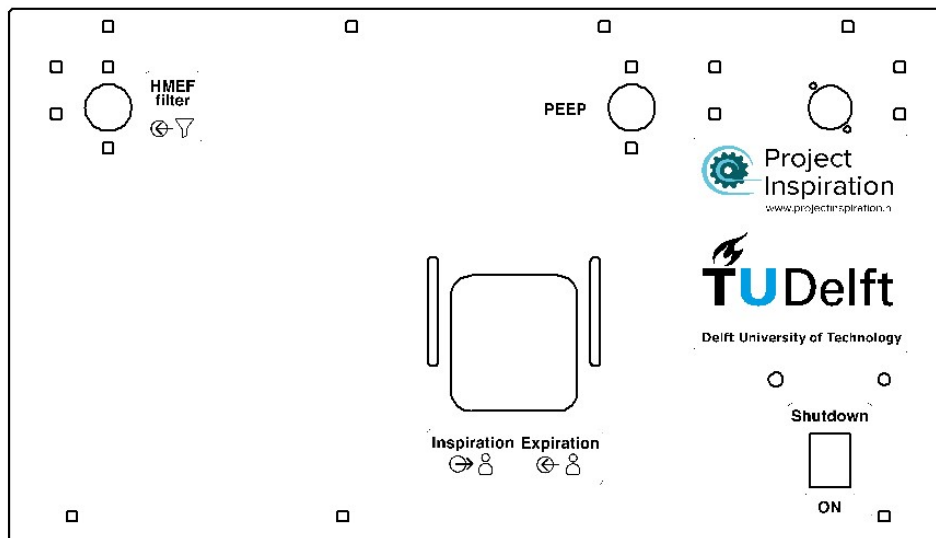

Figure 22: Placement of stickers on Front Plate
1. Place stickers H50, H51, H52, H53 & H54 on the front plate of assembly HA7 as shown in figure 22.